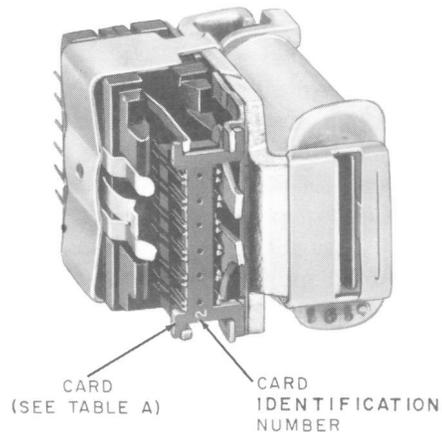

Fig. 3—6-Position Relay—Cover Removed
*The identification number is stamped and located in the lower center of each card when the card is properly mounted on the relay, as shown in Fig. 3. The number stamped on the upper center of the card is the molding cavity identification number and is used for manufacturing purposes only. Order the replacement card by the piece-part number corresponding to the identification number on the card to be replaced.
are positioned as covered in (2) and (3), respectively. Then, hold the card with the number designation positioned in accordance with Fig. 3 or 4 and insert the card between the insulator and twin break springs as follows: Using the edge of the card associated with the twin make springs, press the card against the insulator, adjacent to the twin make contacts. This will increase the gap between the insulator and twin break springs and provide space for inserting the card. Carefully place the card in position, taking care to avoid damage to the spring contacts. Make sure the notches of the armature clamp plate engage the associated tabs on the card and the projections on the balancing spring are aligned with the associated tabs on card. Remove the 749A tool taking care that the balancing spring projections engage the card. Remove the 750A insulator. Remount the contact cover on the relay.
3.05 Actuating Card (12-position Relay): Use two 750A insulators (one for each row of make contacts) and a 749B balancing spring holder instead of the 749A holder and proceed as covered in 3.04 (1), (2), (3), and (4).